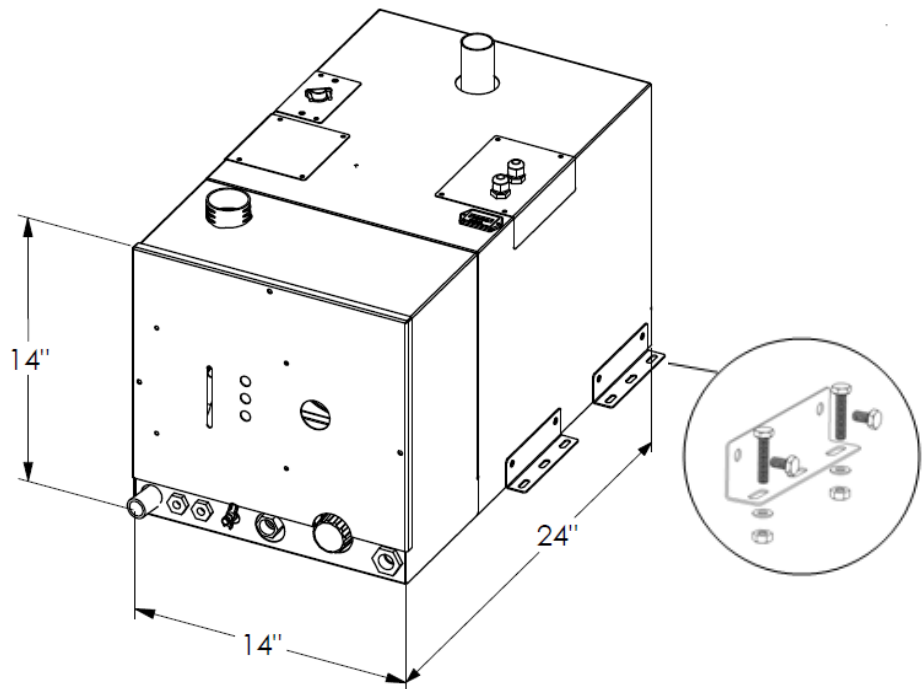

Figure 2-2: Location of Mounting Brackets
- 2 Secure The WindowWasher™ by ITR in place (against the wall, floor, or a mounting platform) using eight (8) x 1/4" through bolts using 1" diameter fender washers, lock washers and nuts (See *Figure 2-2: Location of Mounting Brackets.*).